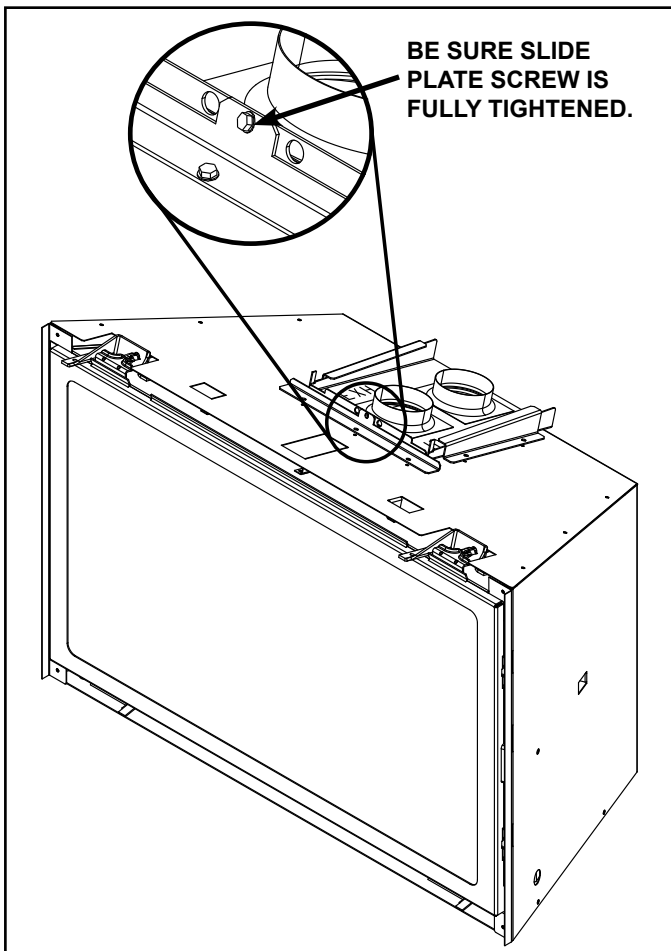

Figure 3.5 Collar slide Plate Screw Detail
- Verify collar slide plate screw is attached see Figure 3.5.